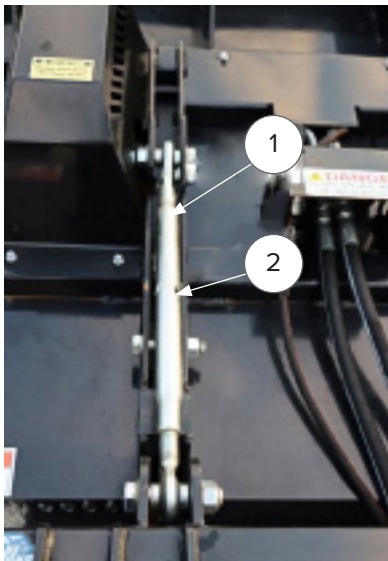

Figure 2
2. Loosen the teardrop-shaped tabs (Item 1) [Figure 2] away from the center of the turnbuckle.
3. Using a screwdriver or similar tool inserted into the center of the turnbuckle (Item 2) [Figure 2], adjust the length of each turnbuckle until the angle of the deck is level with the machine.